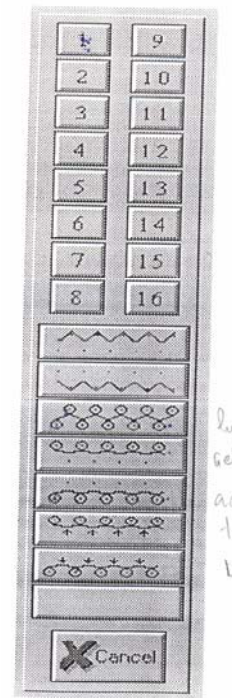

Fig.3. Choice of the structure [3]
2) At the choice of the structure, the operator has the possibility to prepare the drawing using the pre-defined structures from the menu "Special stitch" (figure 3). The pre-defined structures enables: choice of the report of working needle setting 1x1; 2x1; 3x1, choice of the structure, choice of the type of eyes crossed on the needles from the cylinder or from the disc; choice of one or another structure is made according to the elasticity of the thread and its resistance.